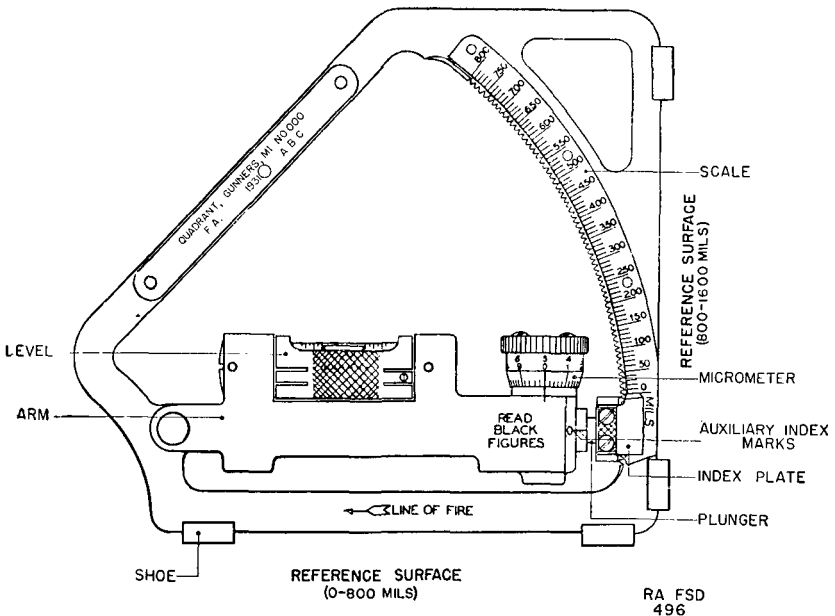

FIGURE 44.—Gunner's quadrant, M1.
b. *M1.*—(1) *Description.*—This quadrant (fig. 44) includes a sector-shaped frame to which is pivoted an arm carrying a level. Notches on the frame engaging with a plunger in the arm permit rapid setting of the arm to desired angle. The frame has two reference surfaces, one used for elevations from 0 to 800 mils and the other from 800 to 1,600 mils. Separate scale and micrometer indications on opposite sides of the quadrant are used for the two different regions.